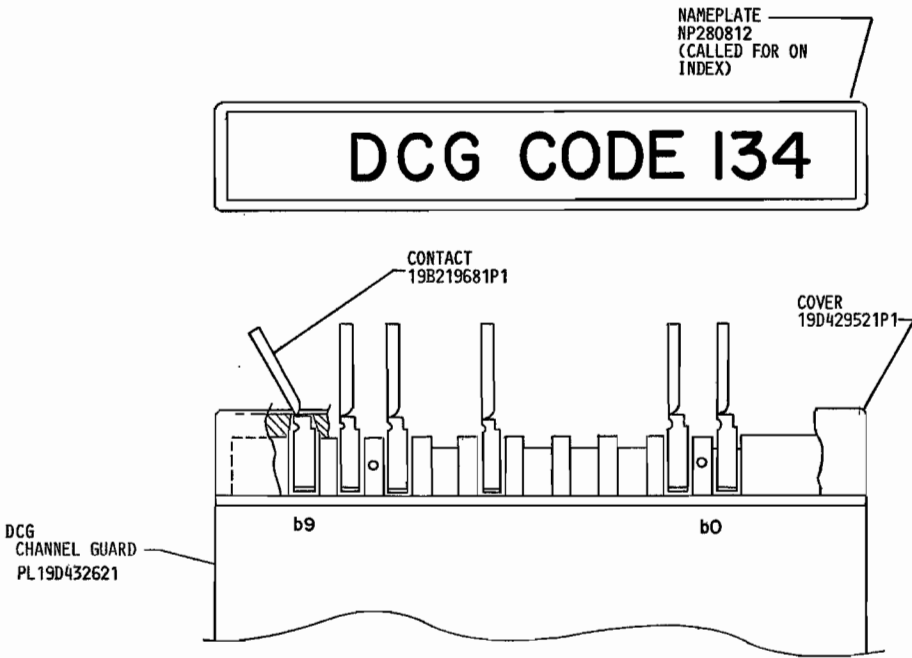

FIG. 2
1. INSTALL CONTACT PINS (19B219681), PER FIG. 2, IN POSITIONS INDICATED BY "X" IN CHART 1, WHICH AGREES WITH DESIRED DCG CODE. (NOTE - EXAMPLE SHOWN FOR 134).